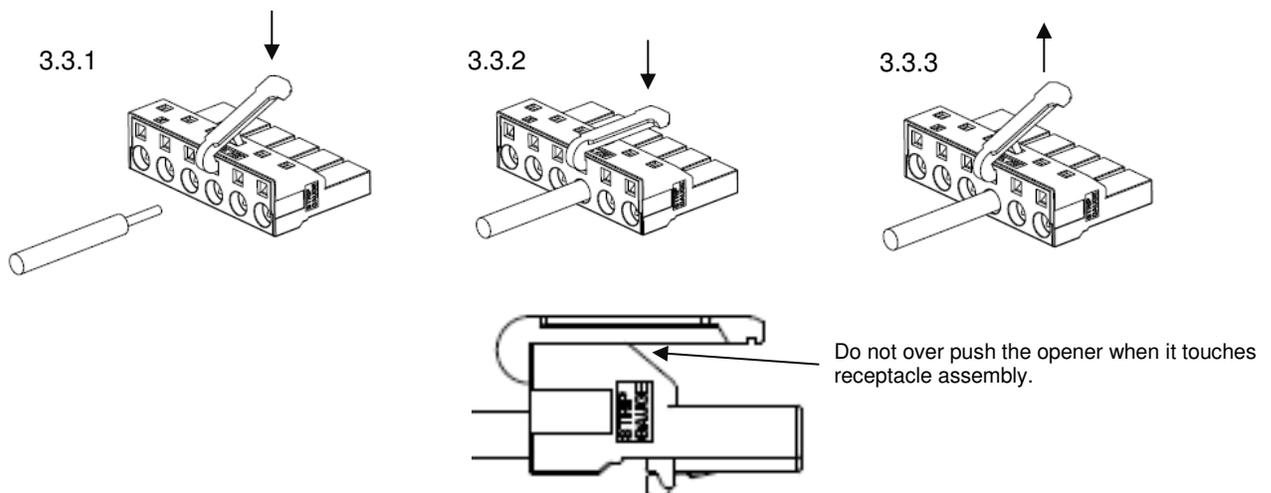

Fig. 3
3.3.1 Install the spring opener to the receptacle assembly and push the lever of opener at illustrated direction in Fig.3.